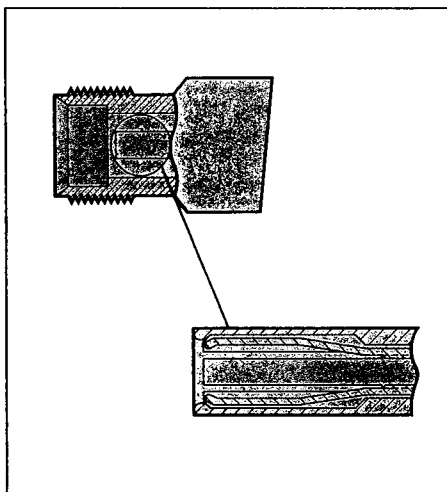

Figure 4. Precision slotless connector
**Precision Slotless Connectors.** Precision slotless female connectors (PSC series) are available for Type-N, 3.5 mm, and 2.4 mm connectors. A female slotless contact (see Figure 4), rather than a slotted one, is used to improve accuracy. Unlike slotted female contacts, PSC contacts are not affected by the slight variations in male contact pin diameter which can be destructive to slotted female contact fingers. Use of precision slotless connectors results in durable contacts that maintain their system impedance and provide measurement traceability via mechanical traceability.